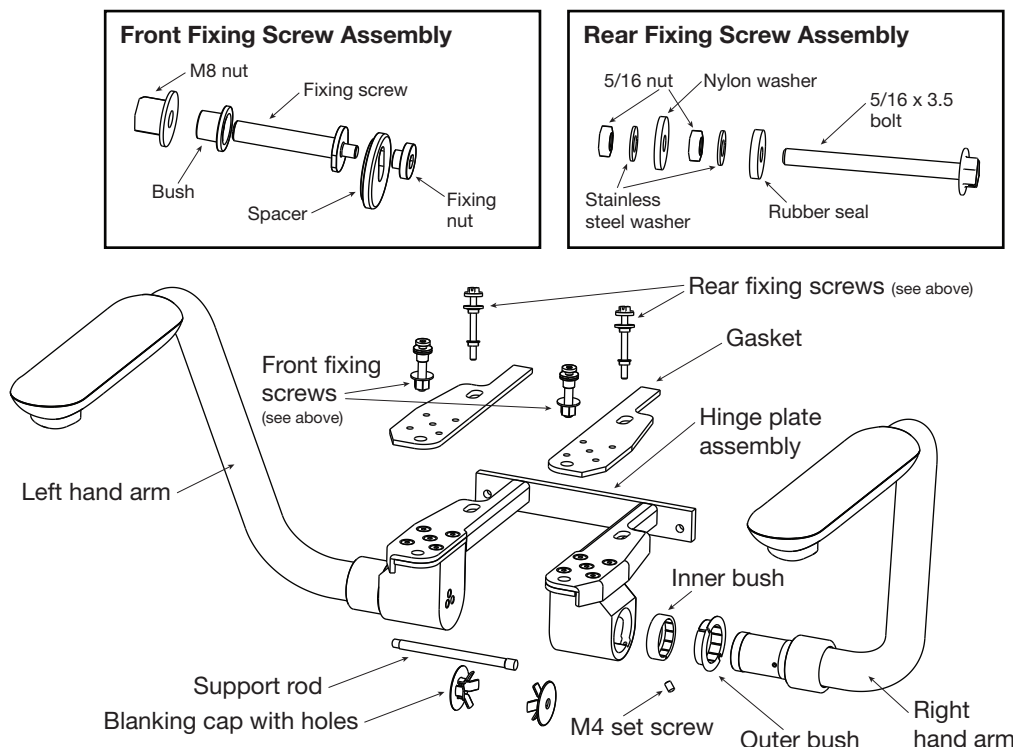

Fig. 1
1. Unpack and check all components as shown in **Fig. 1** above are supplied and unmarked.